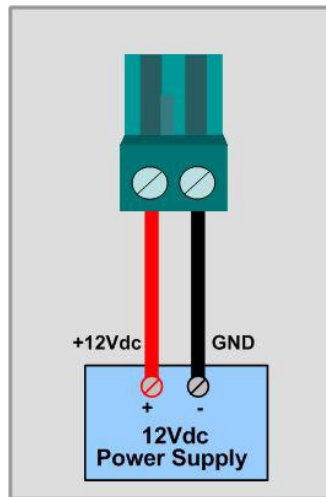

Figure 8. Power Supply-2
- ② Connect to the power supply as depicted in Figure 8.